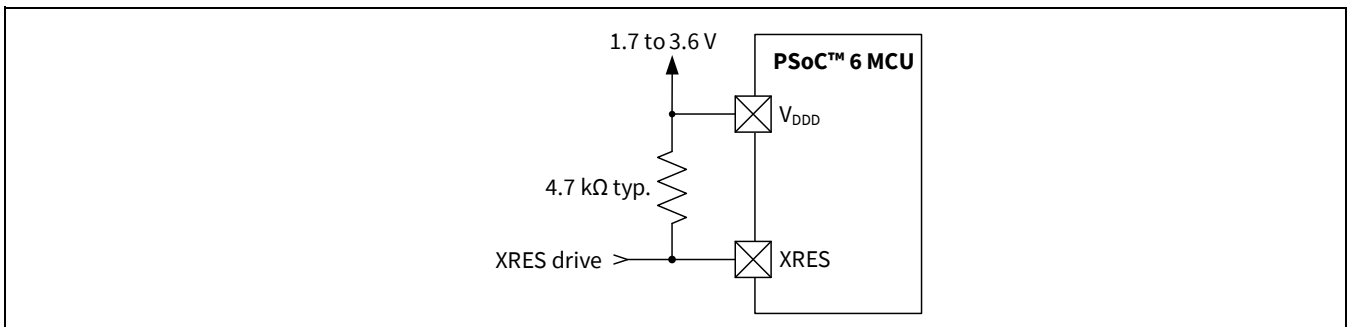

Figure 6 XRES connection diagram
- External reset dedicated pin (XRES) to reset the device using an external source. The XRES pin is active low. It can be connected either to a pull-up resistor to V_{DD}, or to an active drive circuit, as **Figure 6** shows. If a pull-up resistor is used, select its value to minimize current draw when the pin is pulled low; 4.7 kΩ to 100 kΩ is typical.